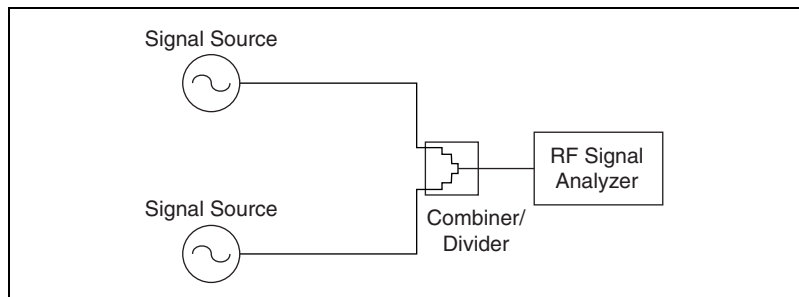

Figure 2-1. Closely Spaced Signal Measurement Setup
1. Connect two signal sources as shown in Figure 2-1.